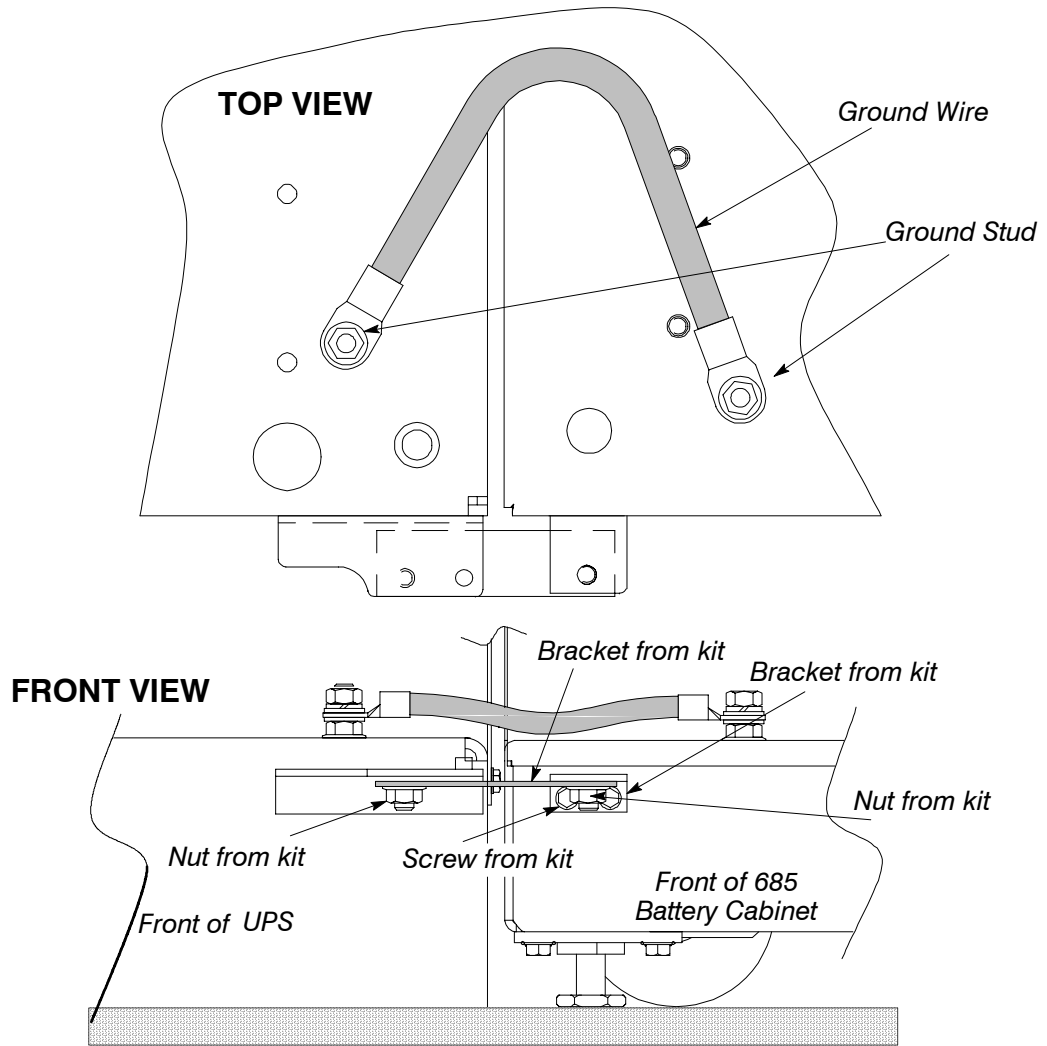

Figure 9. Attaching UPS Base to Series 685 Base
15. Locate the large flat bracket from the field kit. Place one end of the bracket over the stud on the bottom side of the UPS cabinet lower right-hand hinge, and the other end over the stud on the bottom side of the lower right-hand hinge on the Series 685 Battery Cabinet (see Figure 9).